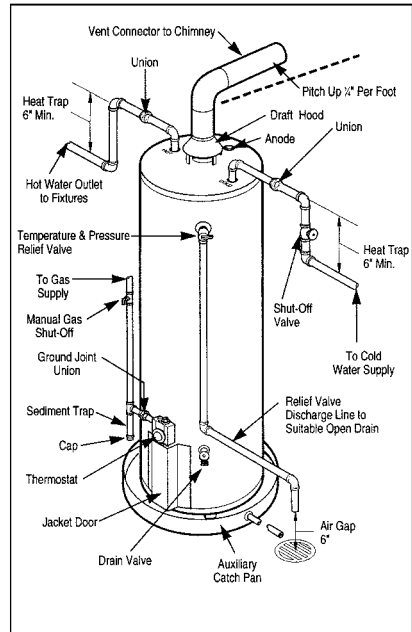

Figure 2 — Typical Installation
- 2. WATER SUPPLY CONNECTIONS**— Refer to Fig. 2 for suggested typical installation. The installation of unions or flexible copper connectors is recommended on the HOT and COLD water lines, so that the water heater may be easily disconnected for servicing if necessary. The HOT and COLD water connections are clearly marked.
IMPORTANT!! This water heater is supplied with one (1) "Cold" (blue tip), and one (1) Hot (red tip) heat trap nipples. They MUST be installed directly into the water heater as shown in Fig. 2. Do not apply heat to the hot or cold heat rap nipple. If sweat connections are used, sweat tubing to